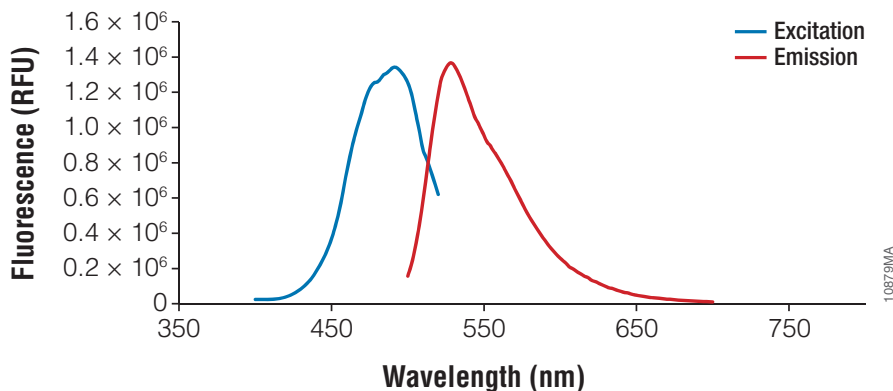

Figure 5. Excitation and emission spectra for the QuantiFluor® ssDNA Dye.
2. Determine the linear regression from the scatter plot (Figure 5).
Fluorescence measurements can be performed using any fluorescence reader capable of measuring excitation and emission at the appropriate wavelengths. For the QuantiFluor® ssDNA Dye, measure excitation and emission at 492nm and 528nm, respectively; emission and excitation spectra are shown in Figure 5.